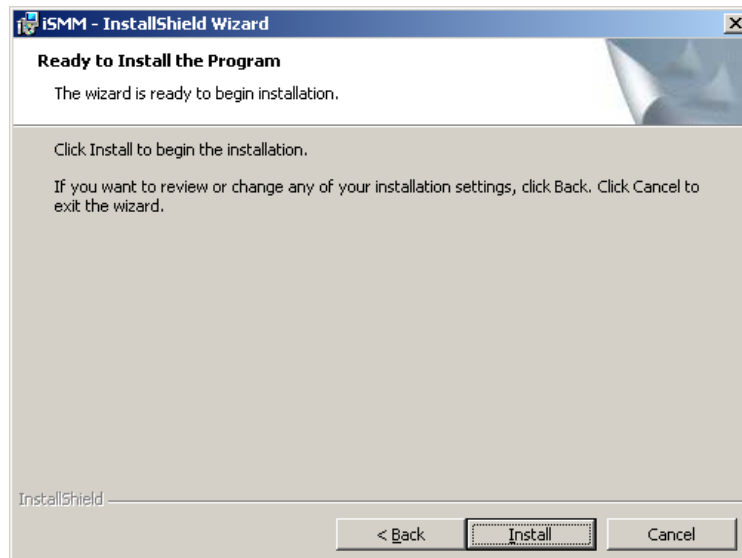

Figure 8-3: Ready to Install the Program Window
Step 7: The Ready to Install the Program in **Figure 8-3** appears.